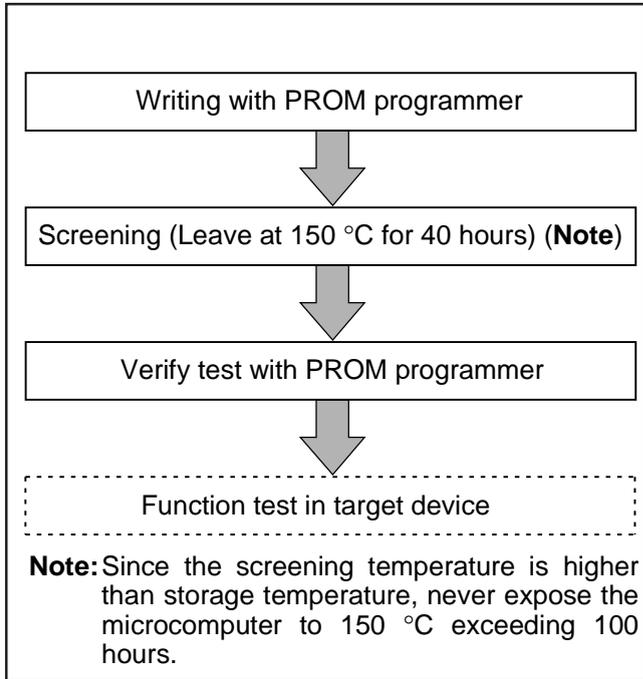

Fig. 56 Flow of writing and test of the product shipped in blank
Table 19 shows the product of built-in PROM version. Figure 56 shows the pin configurations of built-in PROM versions. The One Time PROM version has pin-compatibility with the mask ROM version.
(2) Notes on handling
① For the One Time PROM version shipped in blank, Mitsubishi Electric corp. does not perform PROM writing test and screening in the assembly process and following processes. In order to improve reliability after writing, performing writing and test according to the flow shown in Figure 56 before using is recommended (Products shipped in blank: PROM contents is not written in factory when shipped).
(3) Difference between Mask ROM version and One Time PROM version